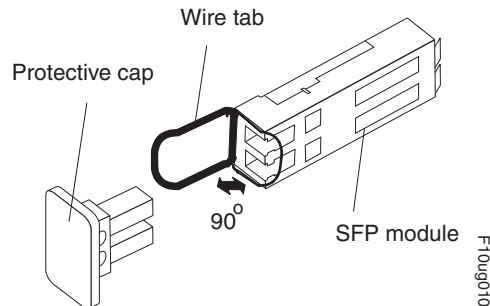

Figure 23. Unlocking the SFP or SFP+ module latch - wire variety
- For SFP or SFP+ modules that contain wire tabs, unlock the SFP or SFP+ module latch by pulling the wire latch outward 90°, as shown in Figure 23.